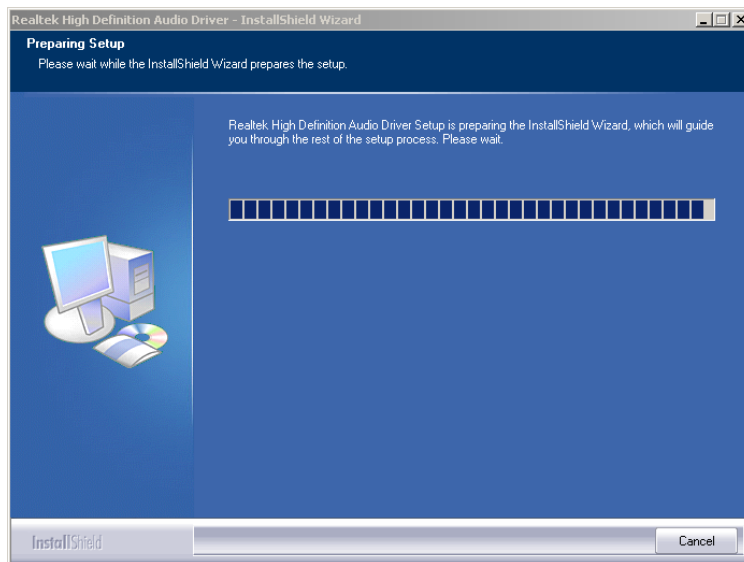

Figure 6-33: Preparing Setup Screen
Step 5: The **InstallShield Wizard** is prepared to guide the user through the rest of the process (**Figure 6-33**).